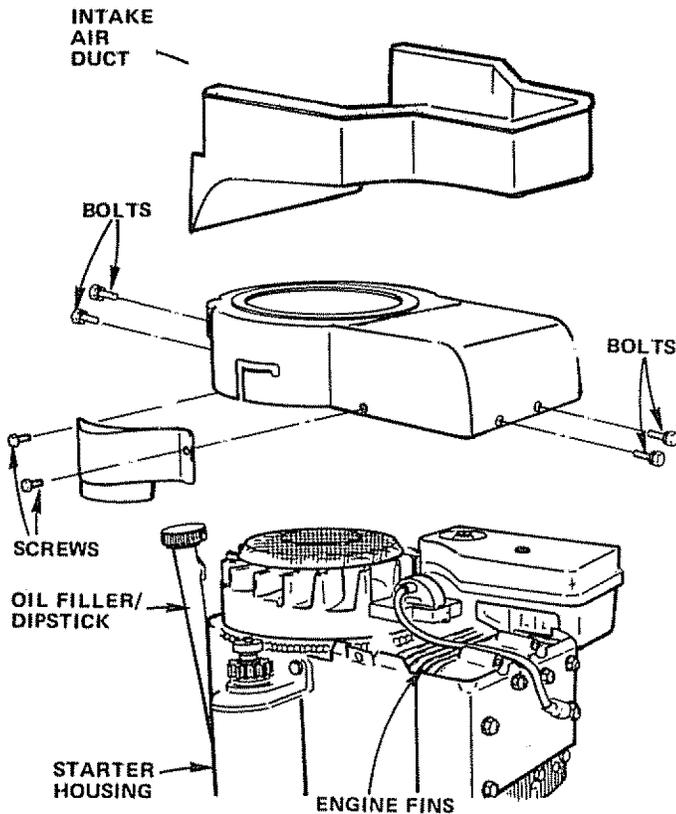

FIGURE 29
Several minutes after stopping Engine, check Engine Oil Level with Tractor on level ground. Remove and wipe Dipstick clean (Fig. 29), screw it in tight for a few seconds, remove slowly and read Oil level. If necessary, add Oil until "FULL" mark is reached.
- Pull up to remove Intake Air Duct (Fig. 29).